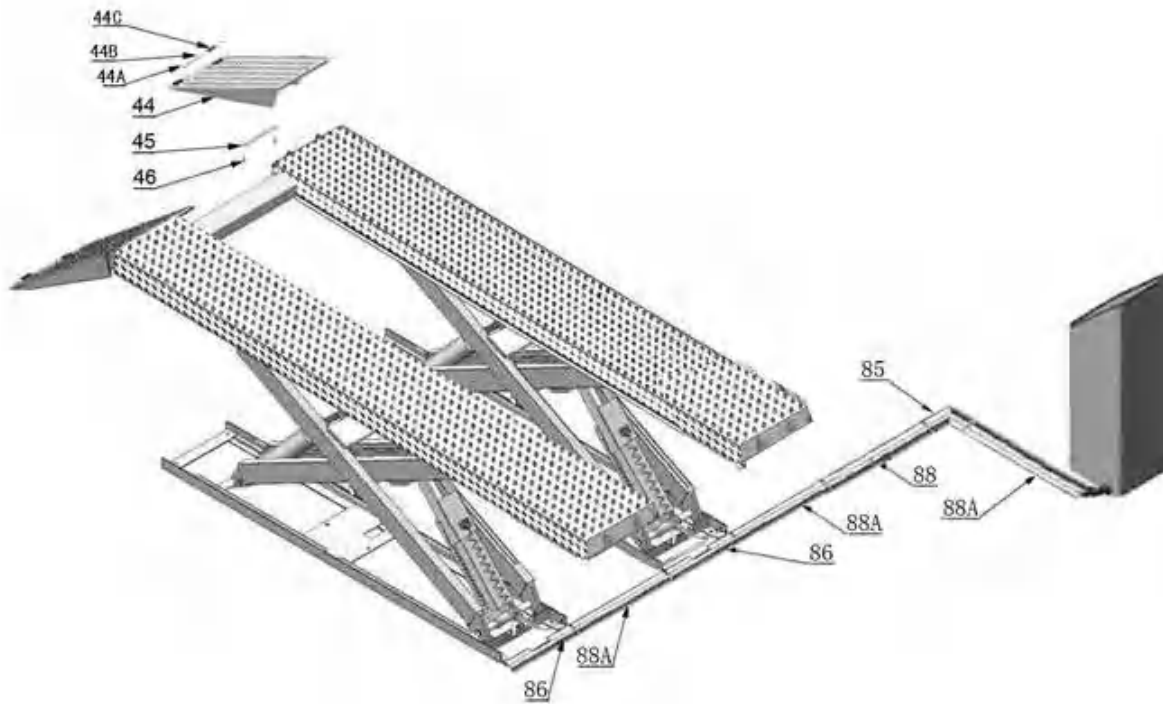

Fig. 5
1.2 Illustration of scissors lift AX-12 on surface installation (See Fig.5).